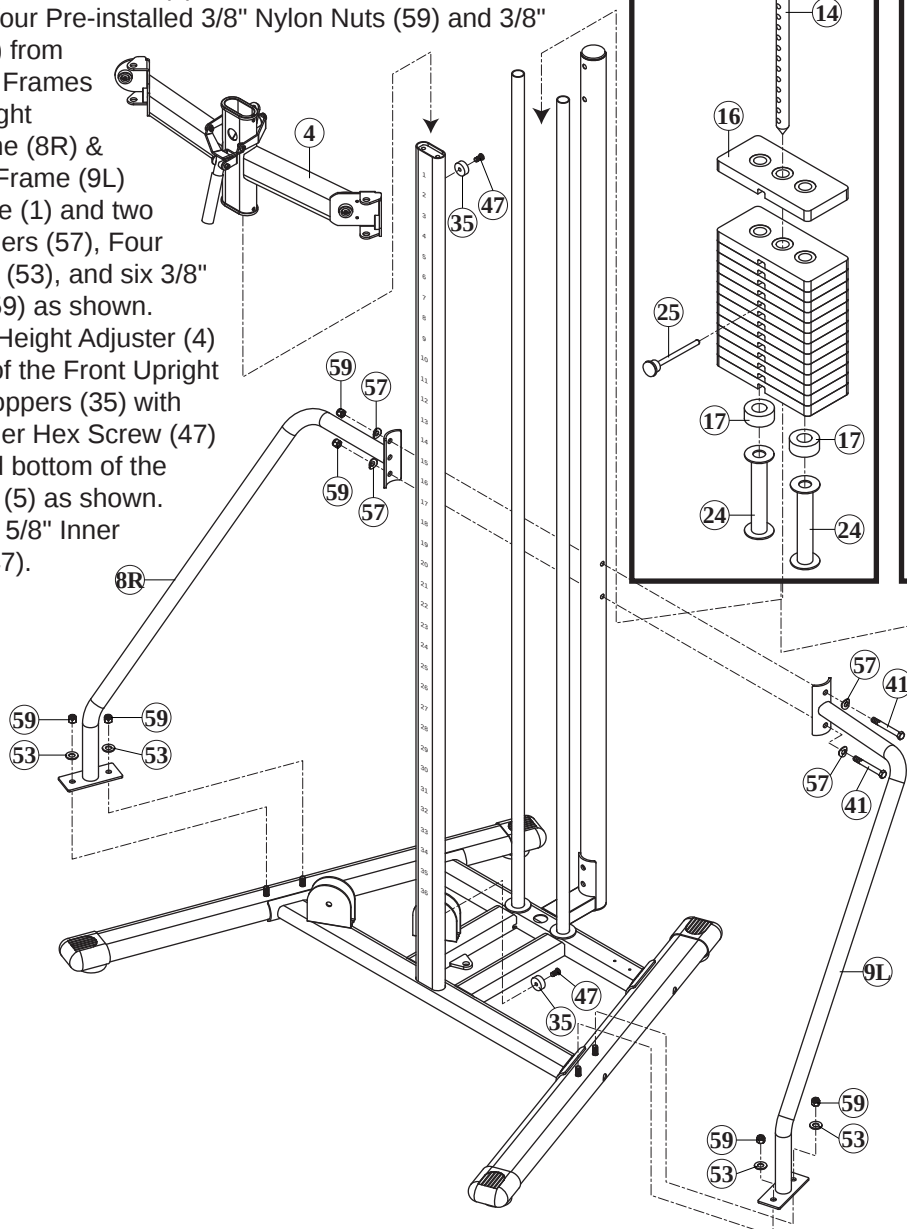

Fig 1.
If you have 19 Weight Plates, DO NOT install the two Stack Spacers (24), See figure 1 & 2 below.
1. Refer to Figures 1 and 2. If you have 14 weight stack plates (16), install the Weight Stack Spacers (24) onto each guide rod. If you have 19 weight plates, DISCARD the Weight Stack Spacers (24).
2. Slide two Rubber Donuts (17) onto one end of each Guide Rod (7). Slide each Weight Plate (16) over Guide Rods (7). Make certain that each plate is oriented with selector hole opening on the bottom and facing forward.
3. Attach Top Plate (15) to Selector Rod (14) using Top Plate Bolt (51), TIGHTEN. Thread the Double Pulley Holder (12) into the Selector Rod (14) 10 full turns. Slide Top Plate (16) and Selector Rod (14) over Guide Rods (7) as shown.
4. Remove the four Pre-installed 3/8" Nylon Nuts (59) and 3/8" Washers (53) from the two Base Frames (2). Attach Right Support Frame (8R) & Left Support Frame (9L) to Main Frame (1) and two Curved Washers (57), Four 3/8" Washers (53), and six 3/8" Nylon Nuts (59) as shown.
5. Install Cable Height Adjuster (4) onto the top of the Front Upright (5). Install Stoppers (35) with M8 X 5/8" Inner Hex Screw (47) at the top and bottom of the Front Upright (5) as shown. Tighten M8 X 5/8" Inner Hex Screw (47).
Refer to (Fig.1) Cable (30) length can be adjusted by turning the 1/2" X 1-3/4" Hex Threaded Bolt (40) at the top of the machine clockwise to remove slack. Adjust counter-clockwise to add slack.